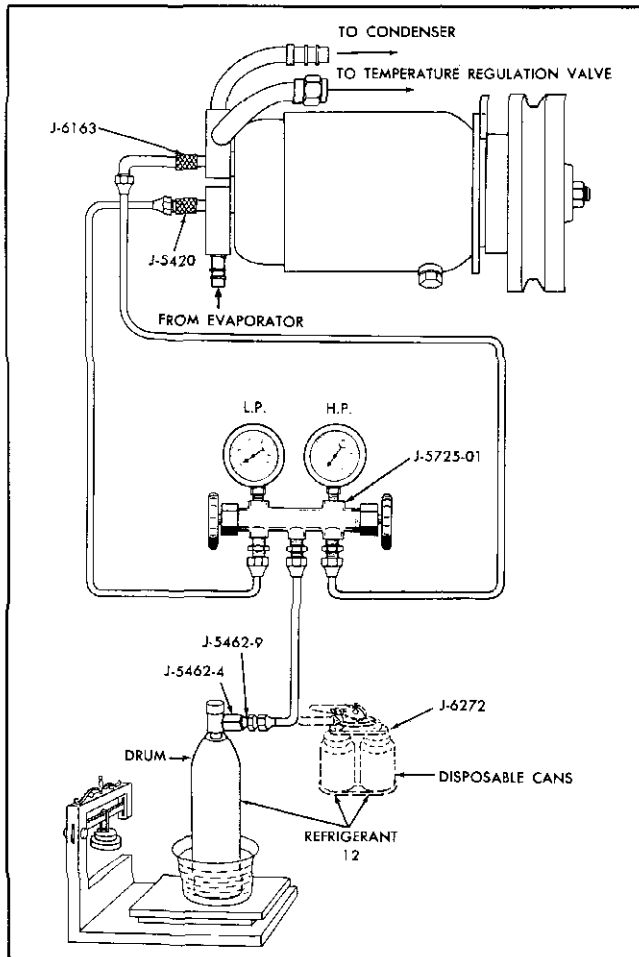

Fig. 6-56 Schematic Showing Connections and Tools for Charging the Refrigeration System
3. Place refrigerant drum (in pail of water) on scales (bathroom or commercial, preferably commercial), Fig. 6-56.